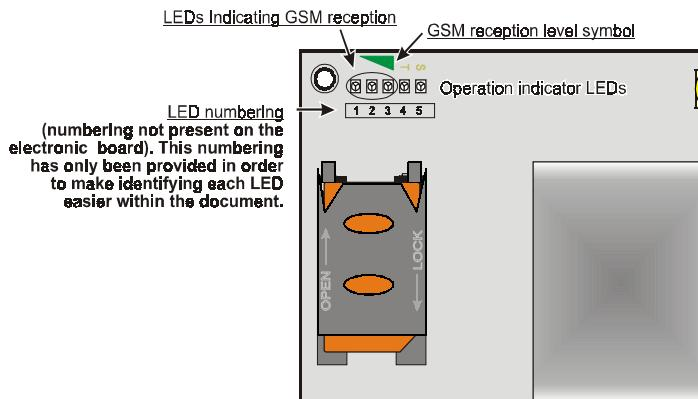

Fig. 5 - Operation indicator LEDs
There are 5 LEDs on the PCB: three green LEDs (1, 2 and 3), one yellow LED (4) and one red LED (5). These indicate connection, transmission and malfunctioning statuses (see Figure 5).
**GREEN** — The three green LEDs (1, 2 e 3) indicate the strength of the GSM signal, as shown in Figure 5: